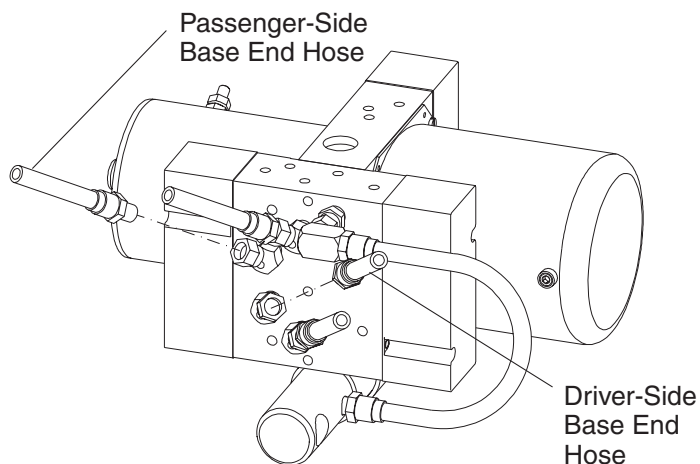

Figure 18
18. Attach to 45° swivel fittings on the hydraulic unit. (See Figure 18.)